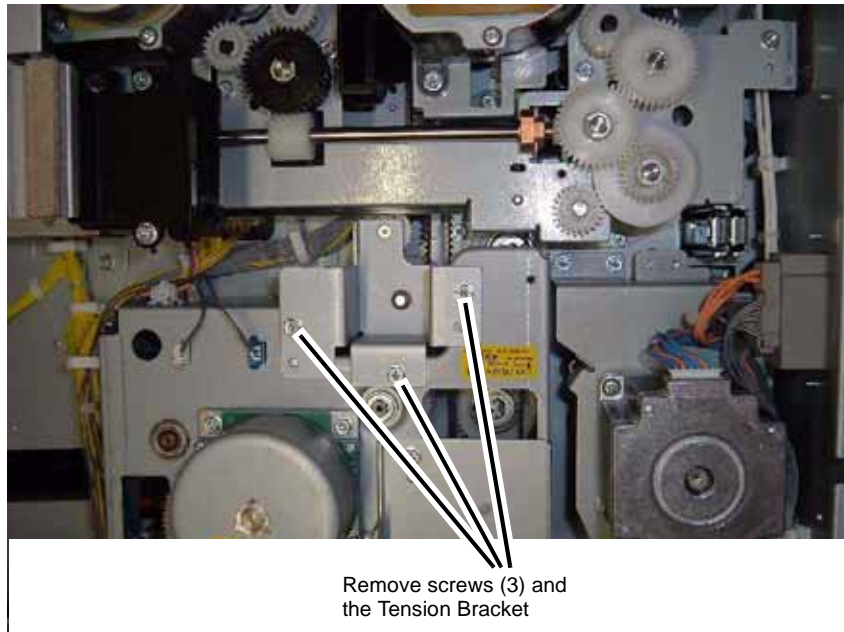

Figure 1 Removing the Tension Bracket
2. Remove the Drum Motor Assembly (K) (REP 9.10).
3. Remove the Tension Bracket (Figure 1).